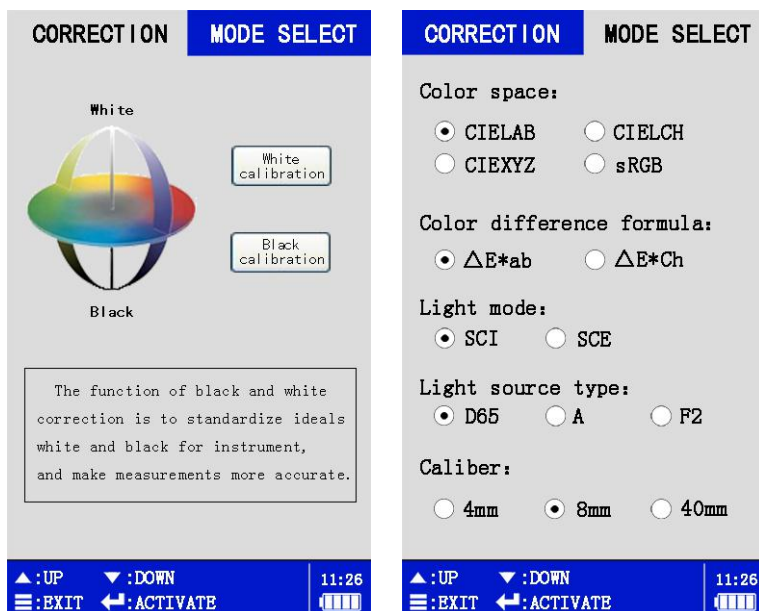

figure 7 "black and white correction" "mode selection" interface
2、Screen to switch to the "prototype" interface, press the "function key", showing "black and white calibration/mode selection" interface, as shown in figure 7, it can change between "black and white correction" and "mode selection" through skipping key. In the mode selection interface, setting the measuring diameter as 4mm, and for black and white correction according to the instrument tips.